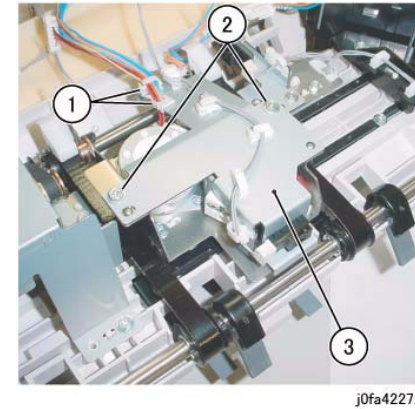

Figure 4 Removing the Bracket Assembly (j0fa42272)
9. Remove the Bracket Assembly. (Figure 4)